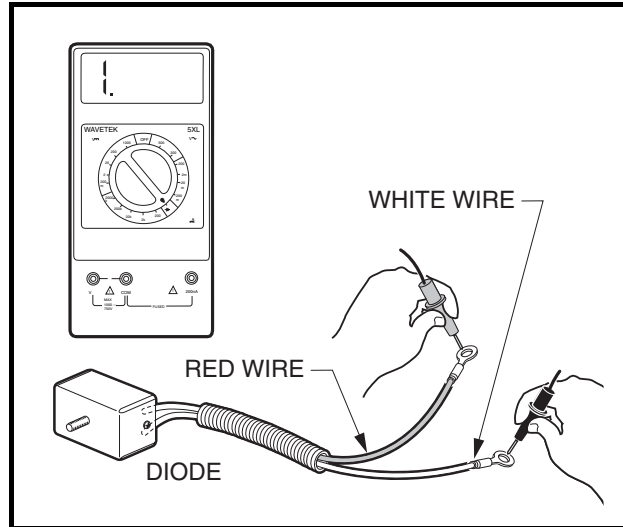

Figure 11-18 Diode Test
- 3.3. Remove the locknuts (7) from the two large solenoid posts and disconnect the diode wires from the solenoid.
4. With the multimeter set to the diode test function ($\rightarrow \text{diode}$), connect the black (–) probe of the multimeter to the white lead of the diode and the red (+) probe of the multimeter to the red lead of the diode (**Figure 11-18, Page 11-20**). The reading should indicate an overload (no continuity). A diode is designed to conduct current in one direction only. If a diode conducts current (shows continuity) with the meter probes as described, the diode has failed and must be replaced. **See Diode Removal, Section 13, Page 13-12.**